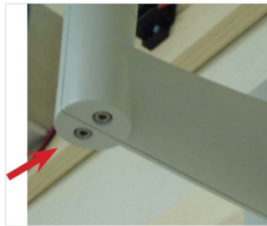

Figure 18
2. For the ceiling or parapet mount, it may be necessary to rotate the lower portion of the ball bracket. This can be achieved by loosening the two 3 mm Allen screws on the bottom of the arm elbow (Figure 18).